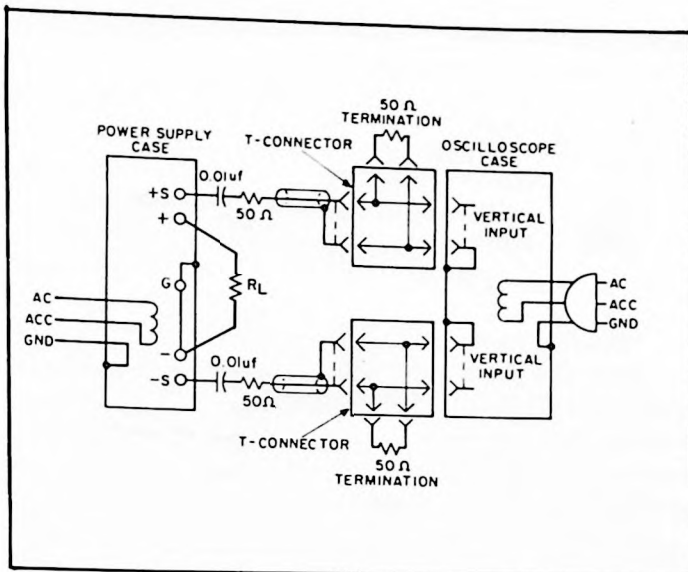

Figure 5-3. Noise Spike Measurement Test Setup
- As shown in Figure 5-3, two coax cables must be substituted for the shielded two-wire cable.
5-30 The circuit of Figure 5-3 can also be used for the normal measurement of low frequency ripple. Simply
remove the four terminating resistors and the blocking capacitors and substitute a higher gain vertical plug-in for the wide-band plug-in required for spike measurements. Notice that with these changes, Figure 5-3 becomes a two-cable version of Figure 5-2B.